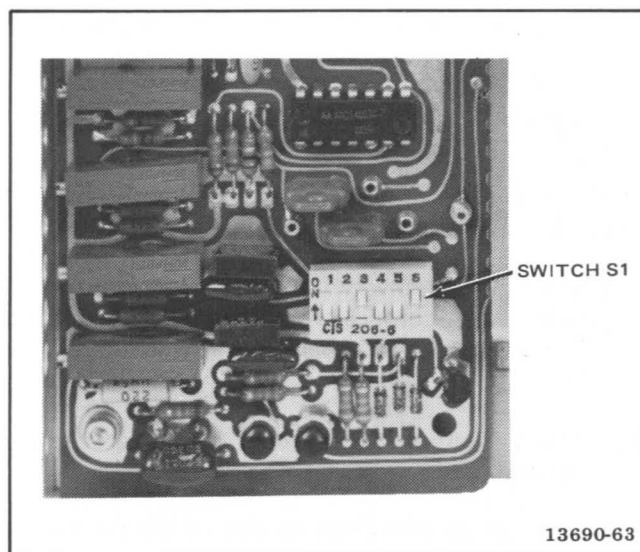

Figure 5-13. Record Equalization Standard Selector Switch S1, PADNET PWA
2. Set preset record equalization standard selector switch S1 (Figure 5-13) on PADNET to equalization standard desired for each of